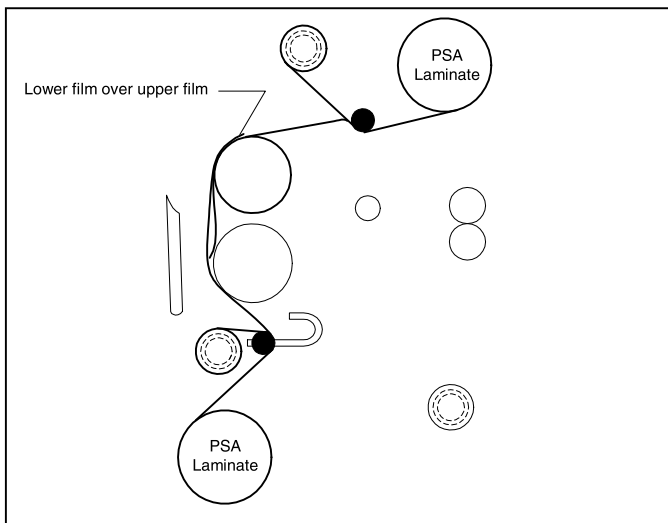

Fig. 29
8. Make two full wraps around the rewind tube, then carefully score the laminate without cutting the release liner. Pull the laminate up towards the film draped over the upper heat roller (Figure 29).